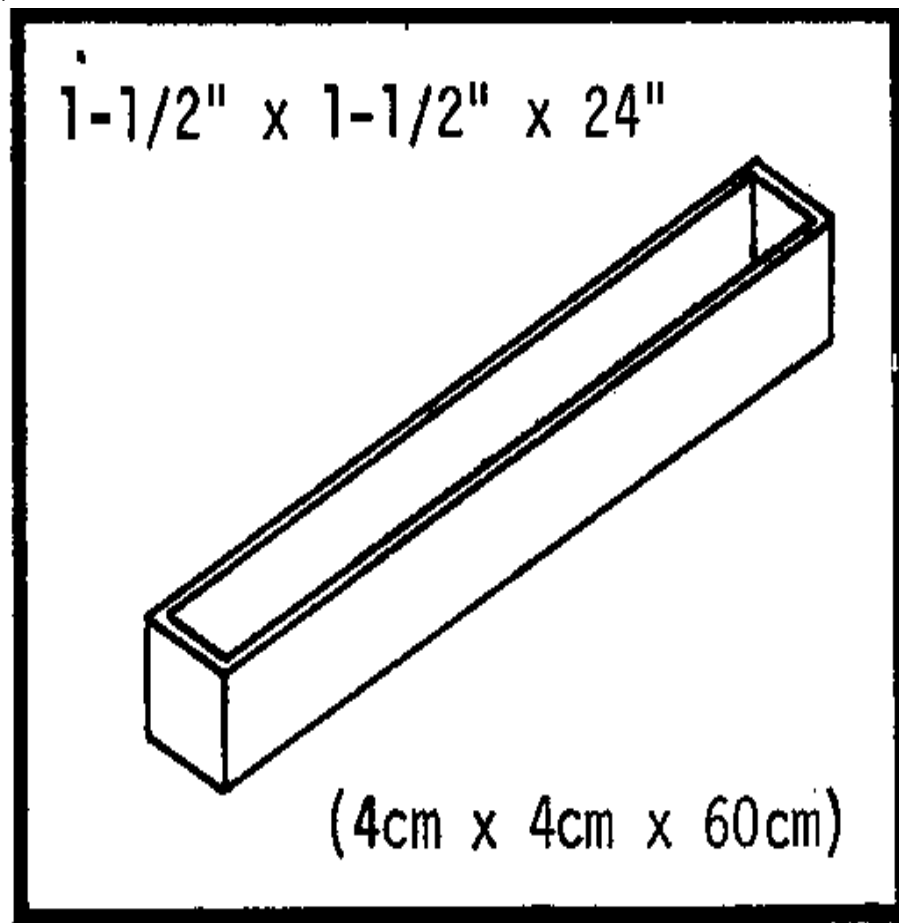

Fig. 3 - Box for Box Test.
(1) Take a handful of dry, screened earth and moisten it until it is damp enough to form a ball when squeezed in the hand, but not so damp that it will leave more than a slight trace of water on the palm.
(2) Drop the ball from a height of about three feet onto hard ground. If the ball breaks into a few smaller pieces, the packing quality is good to fair. If it disintegrates, the quality is poor.
18. Box Test The box test is a guide to the proper soil-cement ratio. It measures the shrinkage of soil which contains no stabilizer. The box should have these inside measurements: 24" x 1-1/2" x 1-1/2" (4cm x 4cm x 60 cm) (see Fig. 3).